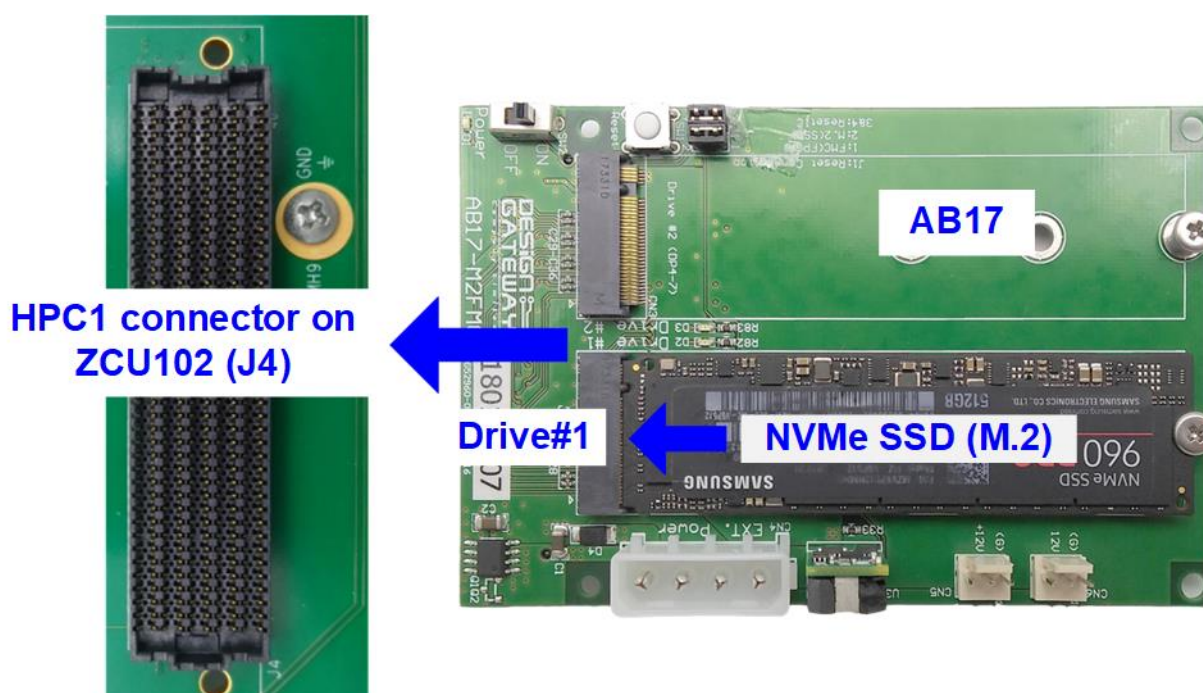

Figure 2-2 Connect M.2 NVMe to AB17
- 2) For ZCU102, set SW6=all ON to configure PS from JTAG, as shown in Figure 2-2.